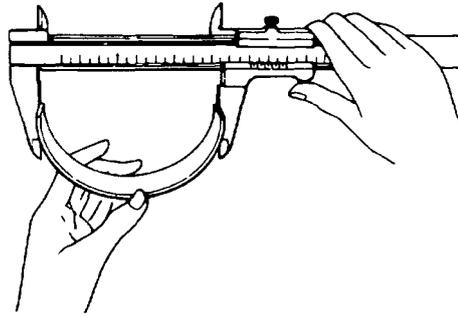

Figure 26 Measuring Bearing Spread
- p.** Before installing new bearings, check the bearing spread (Figure 26). The spread limit for main bearings is 85.0 mm (3.35 in) and for the connecting rod big-end 68.0 mm (2.68 in). Install each half of